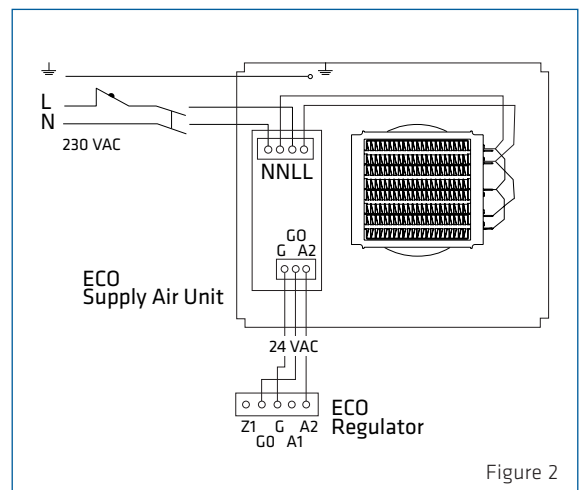

Figure 2
1. Connect supply voltage (230V) to terminals N and L of the electronic part of the supply air unit as shown on Figure 2.
2. Connect the grounding to the separate ground terminal in the supply air unit as shown on Figure 2.
3. Connect the supply air unit of the RCL ECO series to the regulator by means of the KLMA cable as shown on Figure 2.
2. Remove the cover (2) of the regulator from the rear part (1), using e.g. a small screwdriver (clips at the upper and lower edge of the thermostat).
3. Fix the rear part of the regulator either to the instrument box or directly on the wall, using screws (3).
4. Connect the cables to the terminal block (5) as shown on Figure 2.